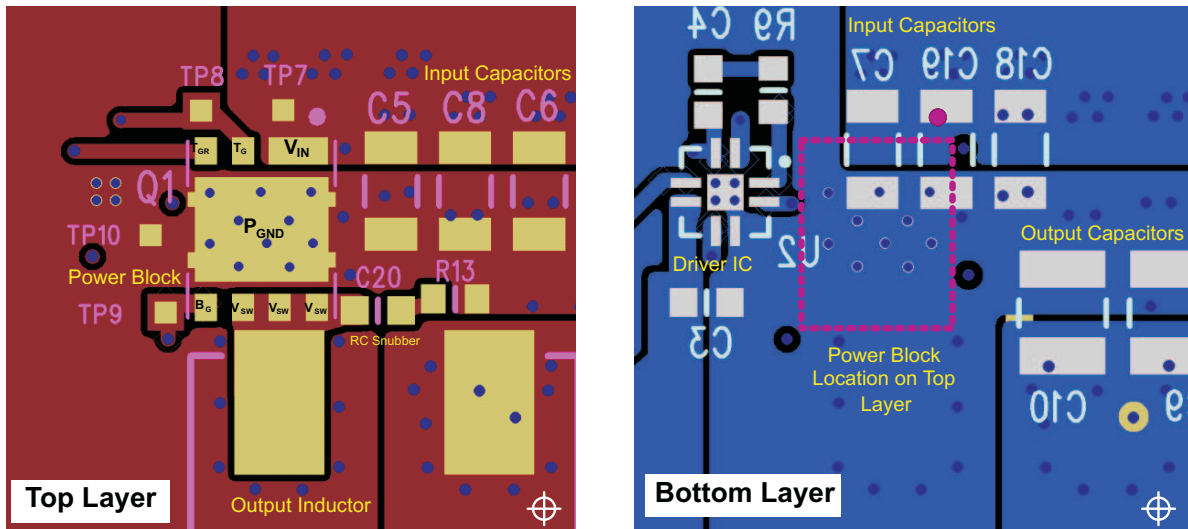

Figure 34. Recommended PCB Layout (Top View)
- The placement of the input capacitors relative to the power block's VIN and PGND pins should have the highest priority during the component placement routine. It is critical to minimize these node lengths. As such, ceramic input capacitors need to be placed as close as possible to the VIN and PGND pins (see Figure 34). The example in Figure 34 uses 6 × 10-μF ceramic capacitors (TDK Part C3216X5R1C106KT or equivalent). Notice there are ceramic capacitors on both sides of the board with an appropriate amount of vias interconnecting both layers. In terms of priority of placement next to the power block, C5, C7, C19, and C8 should follow in order.
- In the event the switch node waveform exhibits ringing that reaches undesirable levels, the use of a boost resistor or RC snubber can be an effective way to reduce the peak ring level. The recommended boost resistor value will range between 1 Ω to 4.7 Ω depending on the output characteristics of driver IC used in conjunction with the power block. The RC snubber values can range from 0.5 Ω to 2.2 Ω for the R and 330 pF to 2200 pF for the C. Refer to Snubber Circuits: Theory, Design and Application (SLUP100) for more details on how to properly tune the RC snubber values. The RC snubber should be placed as close as possible to the Vsw node and PGND see Figure 34.(1)
- Use the smallest drill size allowed in your design. The example in Figure 34 uses vias with a 10-mil drill hole and a 16-mil capture pad.